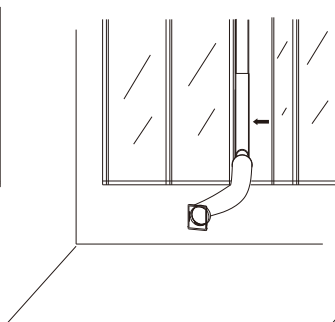

Fig. 7
8. Install exhaust air duct, window kit and their accessories onto window, then close the window according to arrowhead direction in Fig7 drawing to press window kit tightly.